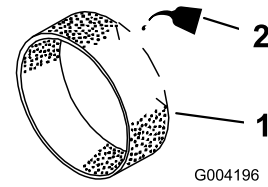

Figure 14
3. Put 29.6 to 59.1 ml (one to two ounces) of oil on the pre filter (Figure 14).